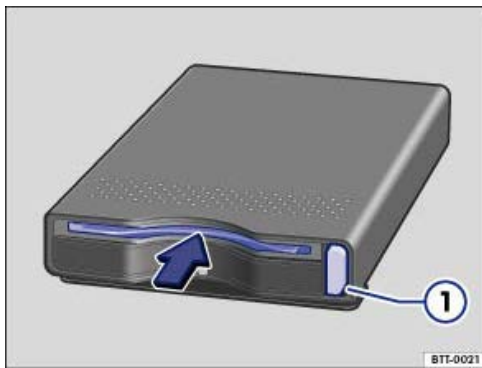

Fig. 210 In the centre console: toll card reader.
Switch on the navigation system and insert a suitable ETC card in the toll card reader → Fig. 210 in the direction of the arrow.
To eject, press the toll card button → Fig. 210 ①.